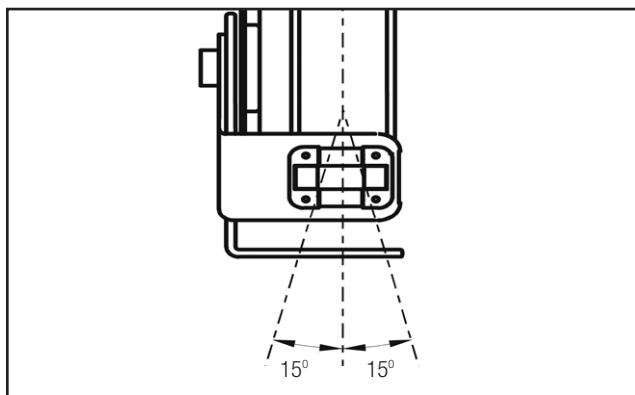

Figure 9-5 Cable Deflection with Roller Guide
3. The cable should extend perpendicular to the rotation of the spool. The total cable deflection should not exceed 15° to either side of the centerline of the spool. See **Figure 9-5**.
5. If the angle of deflection exceeds 30° , a Pivot Base or two way payout guide should be used, otherwise excessive cable wear and unreliable operation will result. See **Figure 9-5**.